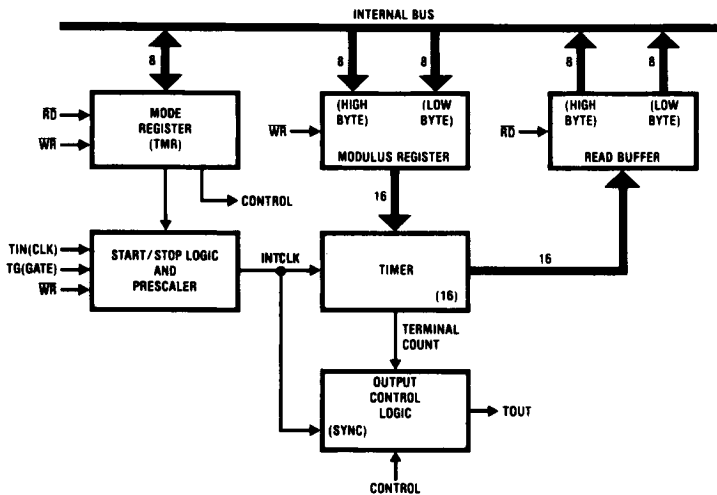

FIGURE 3. Timer Internal Block Diagram (One of Two Timers)
Primary components of one timer are shown in Figure 3. The timer mode register is a read/write register providing
the primary characterization of the timer output. The start/stop logic and prescaler block divides the clock input by the prescale factor, passing the output (INTCLK) to the binary down-counter. This block also gates the clock input signal (TIN) with the timer gate signal (TG). The timer block loads the modulus from the modulus register and uses (INTCLK) to count to zero. It loads the current count into the read buffer block where the CPU can access it at anytime. This timer block also indicates to the output control logic when the modulus is loaded (or reloaded) and when the count reaches 0. The output control logic block drives the output pins according to the timer mode register and the timer block. The output of the timer block (Figure 3) (terminal count) is related to the input TIN by:
The timer prescale divides the input clock (TIN) and provides the output (INTCLK) to the drive the timer block (*Figure 3*).